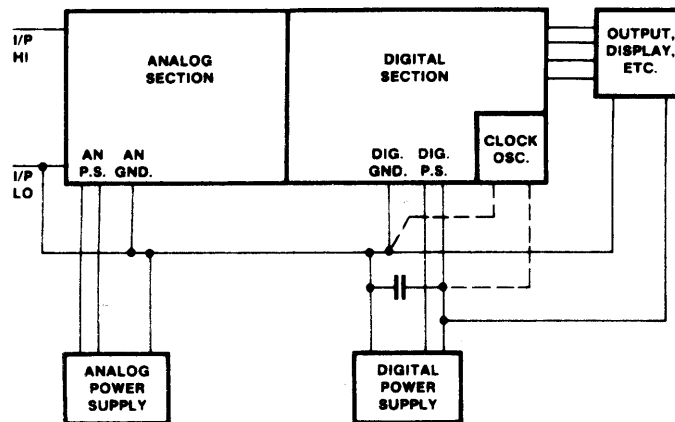

FIGURE 8.
- This symptom is typically a result of grounding problems or digital signals coupled to analog lines. Connect pin 11 (analog ground) to the $100\text{k}\Omega$ resistor at signal input. If the offset disappears, the problem is a result of IR drops in the ground line. Reconnect ground lines similar to Figure 8.